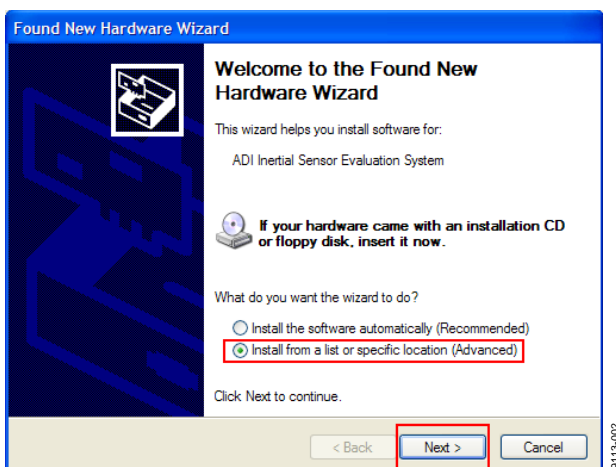

Figure 2. Found New Hardware Prompt
2. If prompted to install drivers again, click **Install from a list or specific location (Advanced)** (see Figure 2); then click **Next**.